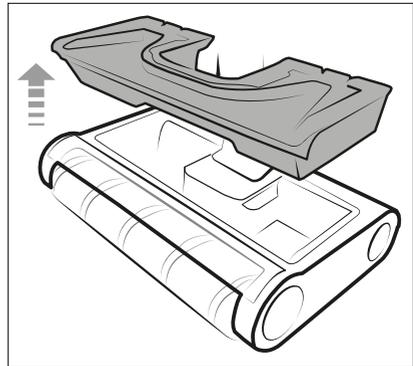

Fig. 10
- 3) Take the dirty water tank **13** out of the wiping unit **7** (see Fig. 10).